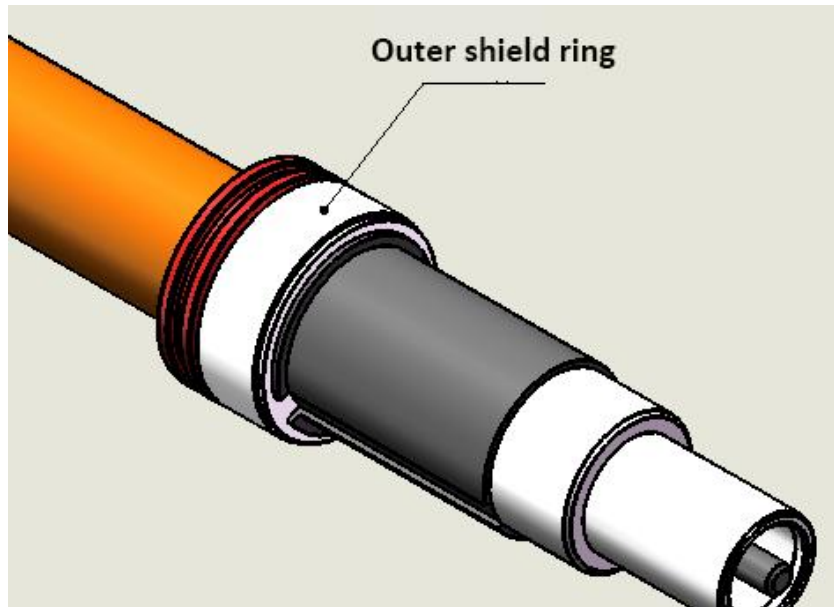

Figure 9
3.1.5 The outer shielding ring is combined with the inner shielding ring and fully contacted with the shielding layer, as shown in Fig.9.